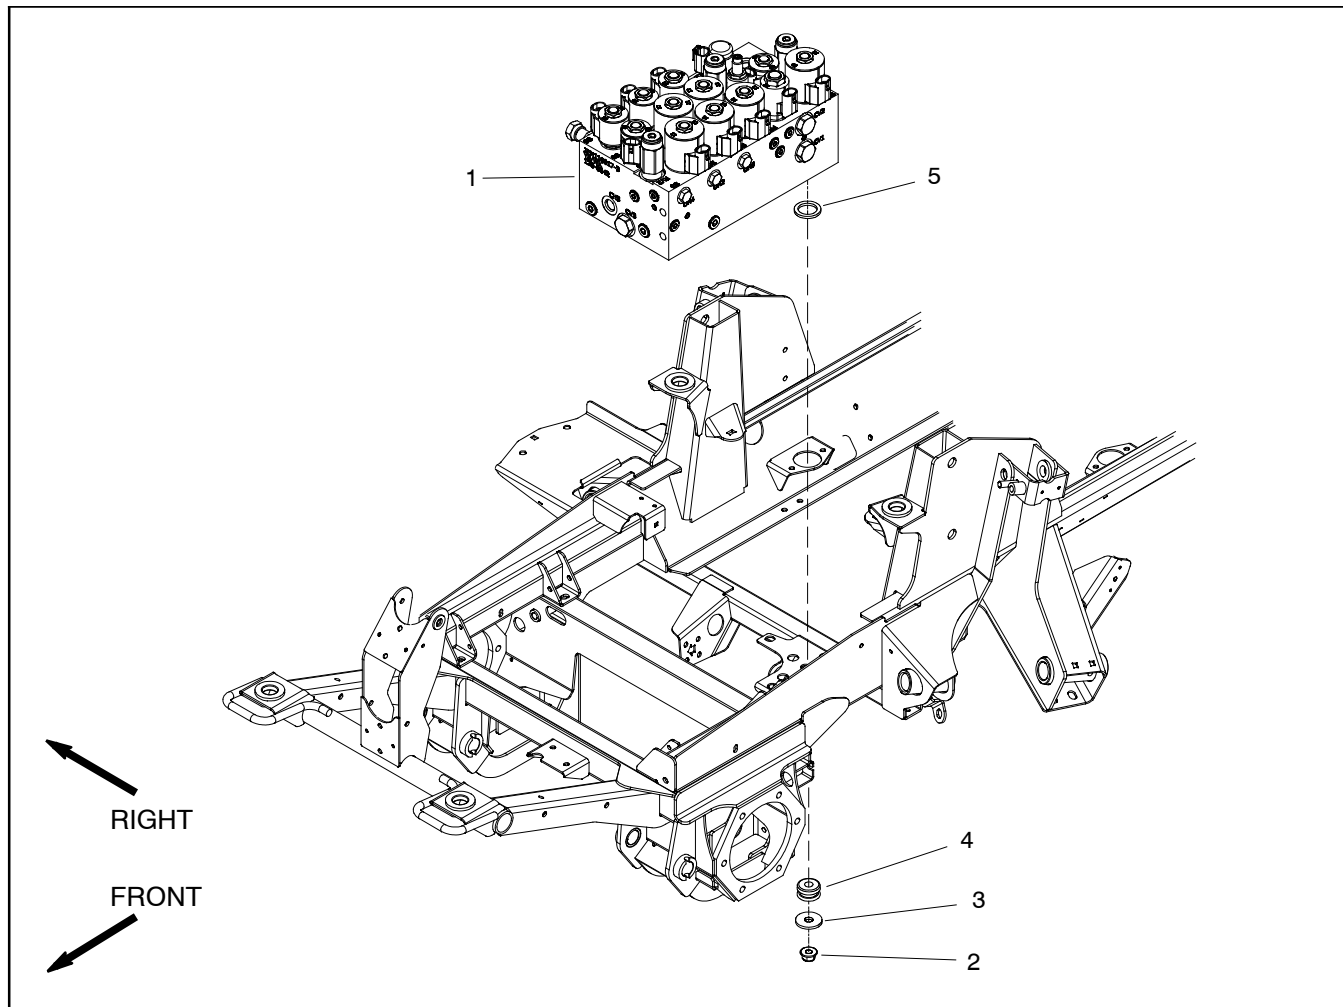

Figure 74
Removal (Fig. 74)
5. Remove combination manifold from the frame using Figure 74 as a guide.
Installation (Fig. 74)
2. Install combination manifold to the frame using Figure 74 as a guide.